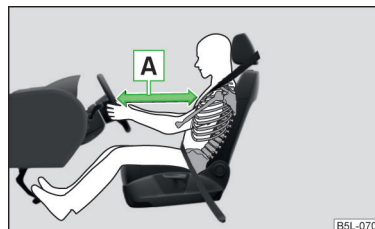

Fig. 21
- For the driver and passenger, it is important to maintain a distance of at least 25 cm from the steering wheel or dashboard » Fig. 21 - A. If this distance is not maintained, the airbag system cannot protect you - hazard! The front seats and the head restraints must always be correctly adjusted to match the body size of the occupant.